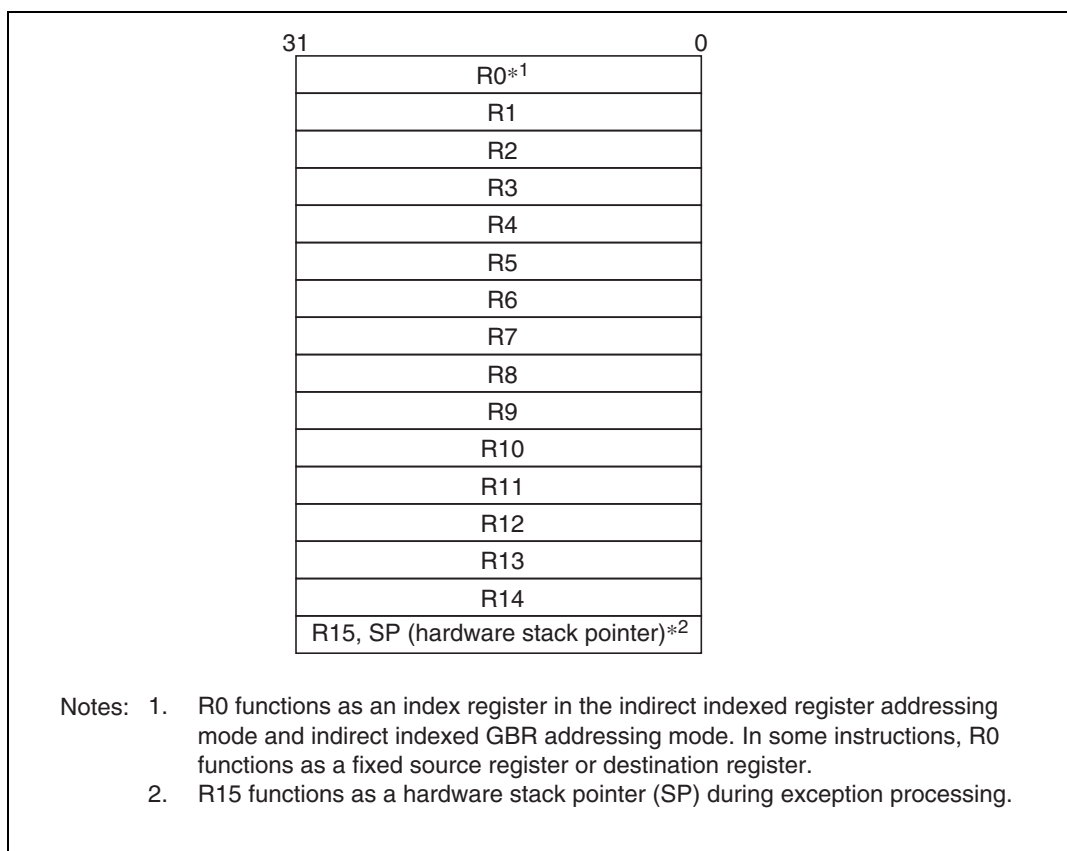

Figure 2.1 General Registers
The sixteen 32-bit general registers (Rn) are numbered R0 to R15. General registers are used for data processing and address calculation. R0 is also used as an index register. Several instructions have R0 fixed as their only usable register. R15 is used as the hardware stack pointer (SP). Saving and recovering the status register (SR) and program counter (PC) in exception processing is accomplished by referencing the stack using R15. Figure 2.1 shows the general registers.